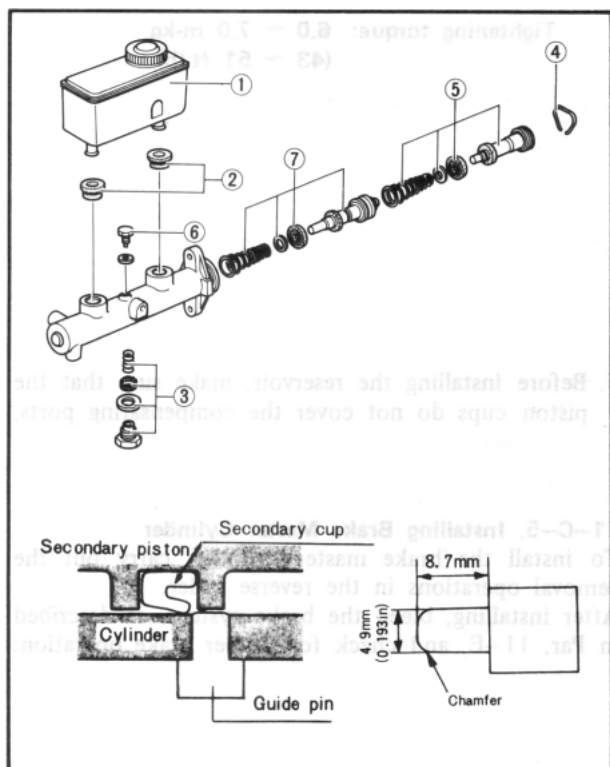

Fig. 11-23
3. Fit the guide pin, to prevent the piston cup from damage, into the stop bolt hole, as shown in Fig. 11-23. With a screwdriver, push the secondary piston as far as it will go, and then, remove the guide pin and install the stop ring.